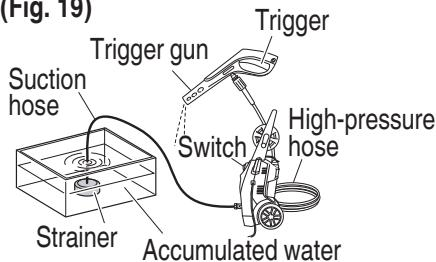

Fig. 19
5. Check to make sure the water is flowing out (Fig. 19)